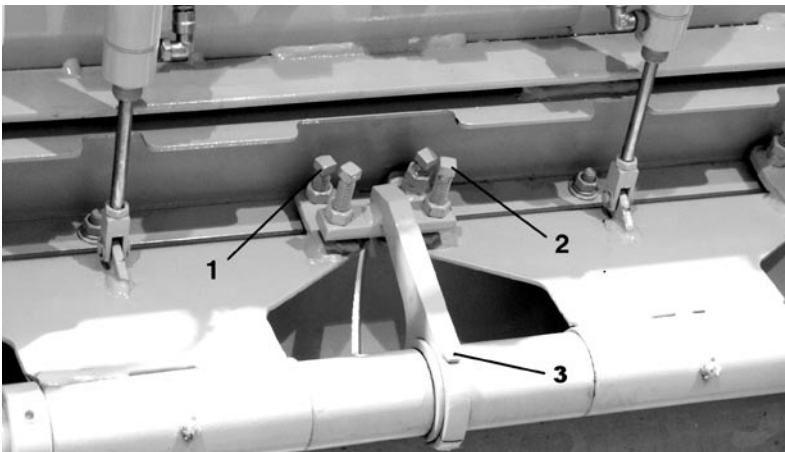

Figure 4
- a. Back off hydraulic gate arm adjustment screws between all hydraulic gate buss arms and air gates. (see figure 4)
- b. Adjust air gate adjustment screws (see figure 4) to achieve a uniform gap of 1/16" across the spreadroll. Insure that there is air pressure applied to the gate forcing it closed during this adjustment.
- c. Check all buss arm asm bolts to make sure that they are tight, (see figure 4) replace any bent or broken bolts.
- e. With machine running and hydraulic pressure applied to hydraulic gate buss arm, turn air gate master power (ON) turn all individual air gate switches (ON) and allow air gates to open to hydraulic gate buss arm.